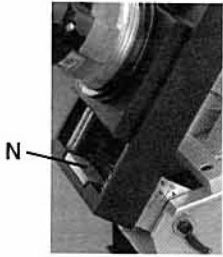
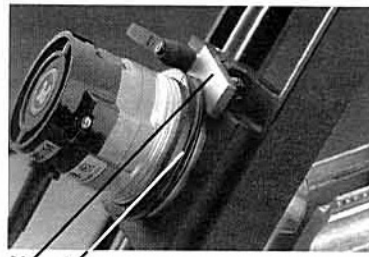

Figure 4
Figure 5
3. The **DEPTH GAGE (N)** should be stored on a magnet shown in **Figure 4**. Loosen the **MICRO ADJUSTING RING (A)** so you can slip the **DEPTH GAGE** between it and the **ROUTER SLIDE**, **FIGURE 5**. Finger tighten the **MICRO ADJUSTING RING** against the **DEPTH GAGE**. Remove the gage. Pivot the base so the **ROUTER BIT** is between the two pieces of moulding and push the router into its **ROUTER SLIDE** and against the **MICRO ADJUSTING RING**. Tighten the hex screw to firmly lock the **ROUTER SLIDE** around the router.